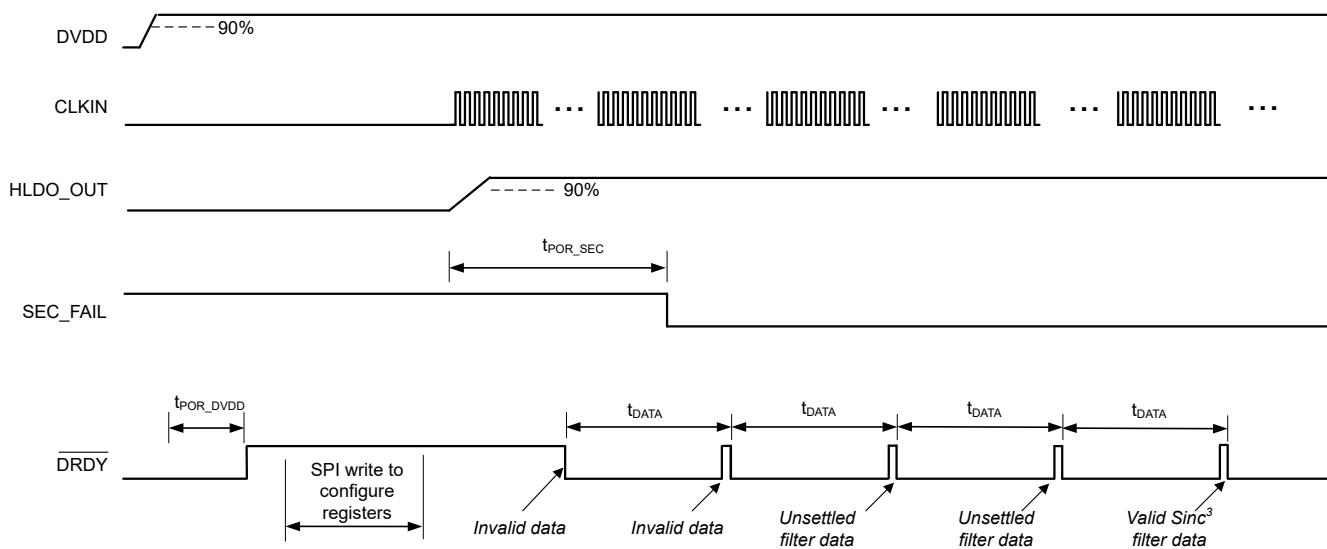
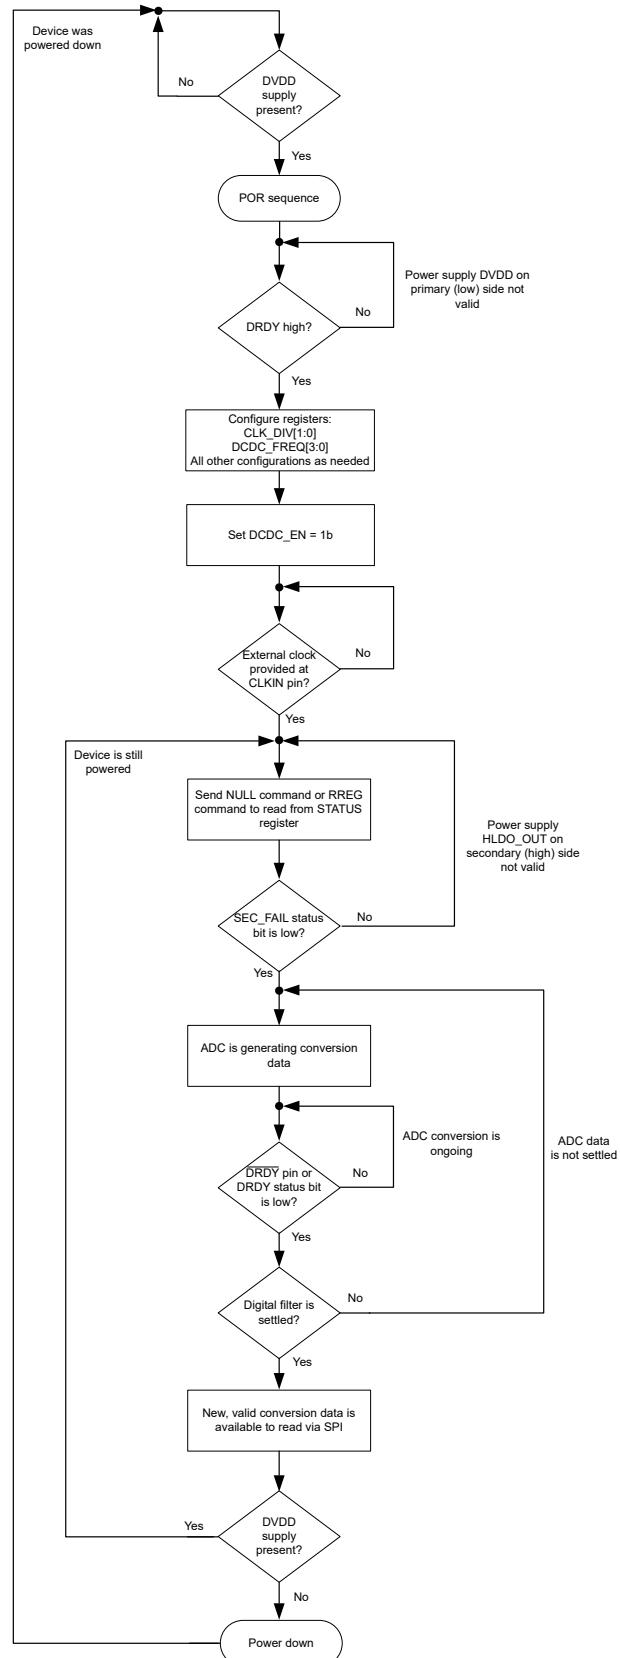

Figure 8-18. Start-Up Behavior at Power-Up and Settling Times, OSR = 1024
Figure 8-19. Flow Diagram for Start-Up Procedure at Power-Up
A recommended procedure for powering up the AMC131M03 is described in this section. Figure 8-18 depicts a timing diagram for the device behavior when this recommended sequence is used. Figure 8-19 provides a flow diagram that displays the recommended sequence in a graphical form.
- The high-to-low transition of \overline{DRDY} indicates that new conversion data are available. As given in Figure 8-18, ADC data are only valid if the SEC_FAIL reads 0b during the conversion period. The first two conversion results shown in Figure 8-18, represent invalid data.
- When the ADC generates valid data, the digital filter must settle, as described in the SINC³ and SINC³ + SINC¹ Filter section. Two subsequent conversion results illustrated in Figure 8-18 are unsettled (assuming OSR equals 1024), and the last conversion result shown provides valid and settled data.
In Figure 8-18, t_{POR_SEC} is the time from enabling the DC/DC converter to the first falling edge of the SEC_FAIL bit, which indicates that the secondary power supply at the HLDO_OUT pin is stable. t_{POR_DVDD} is the time from DVDD supply at 90% to \overline{DRDY} first rising edge.